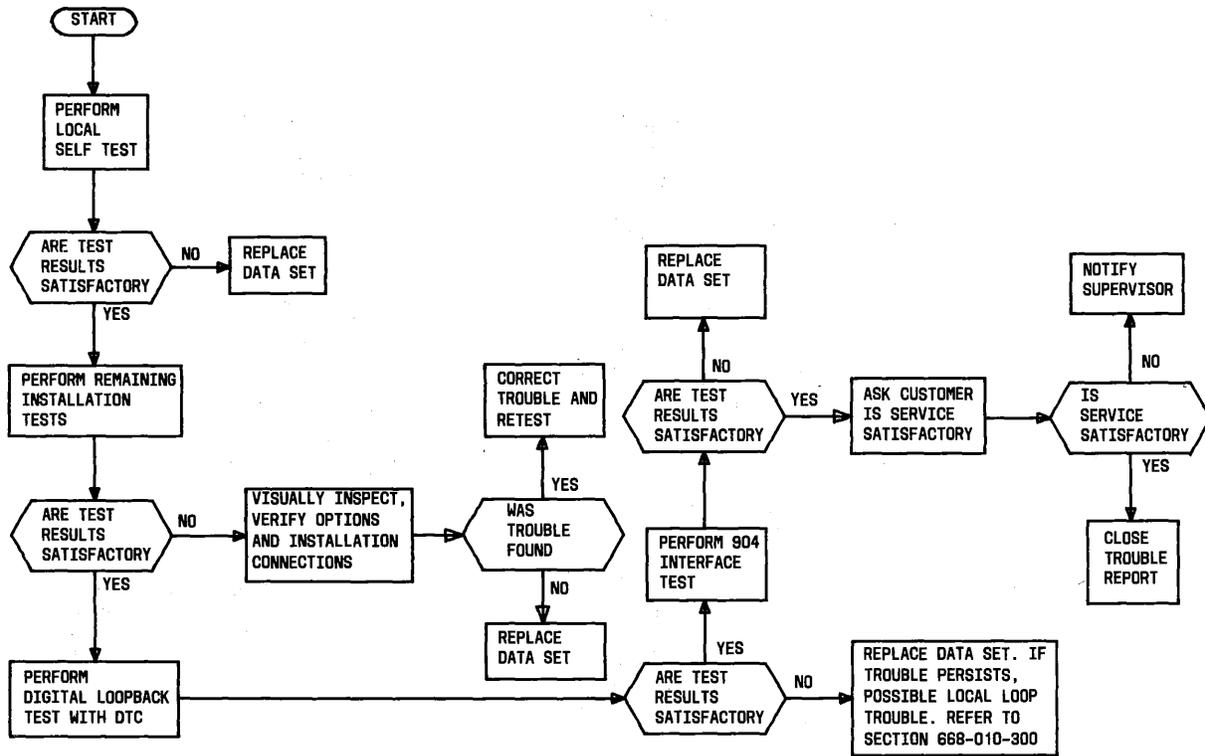

Fig. 7—Station Test Sequence—DS 113C
- (1) Upon arrival at the customer location, the telco employee should make a quick visual inspection of the data set. Verify that power is applied. Check also for other possible causes of trouble, such as cable and connector defects.
- (2) If this initial check does not reveal a trouble condition, proceed as indicated in Fig. 7.